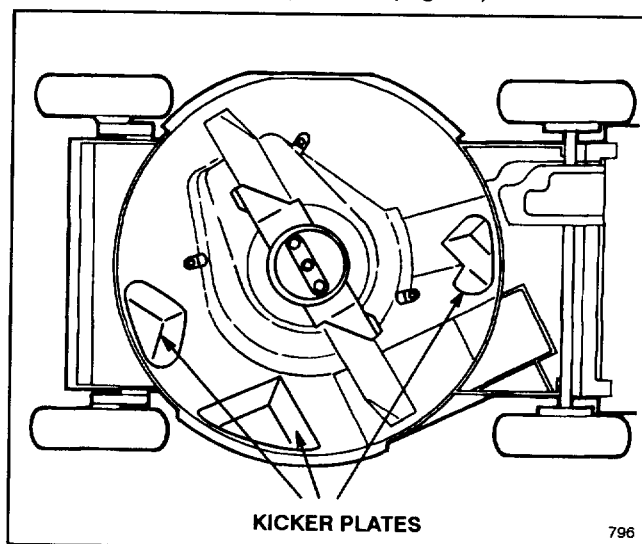

Figure 31
Keep underside of mower housing clean. Be especially careful to keep kickers on underside of mower housing free of debris (Fig. 31).
3. Tip mower on its right side (Fig. 31).